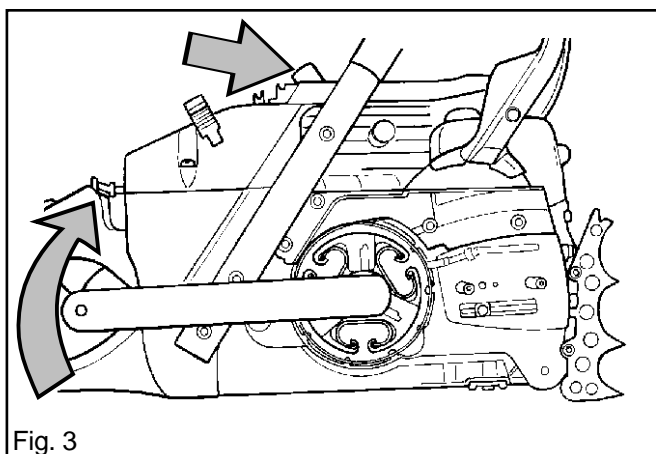

Fig. 3
4. Remove the spark plug, insert the piston stop tool and unscrew the clutch hub with the clutch tool. Note - left-hand thread. Turn in the direction of the arrow as shown in fig. 3.